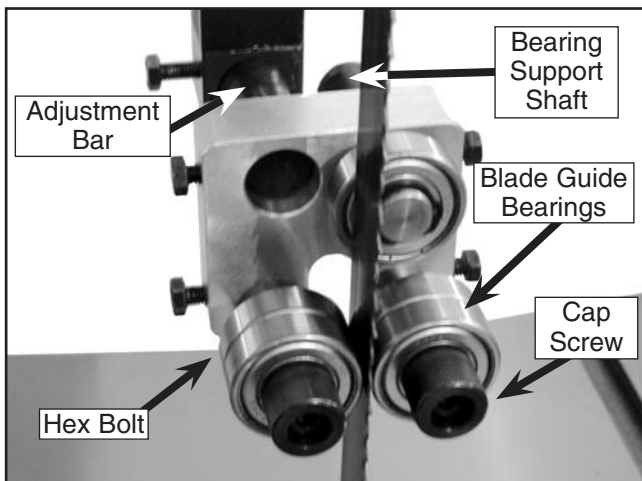

Figure 23. Blade guide controls.
3. Familiarize yourself with the blade guide controls shown in **Figure 23**.